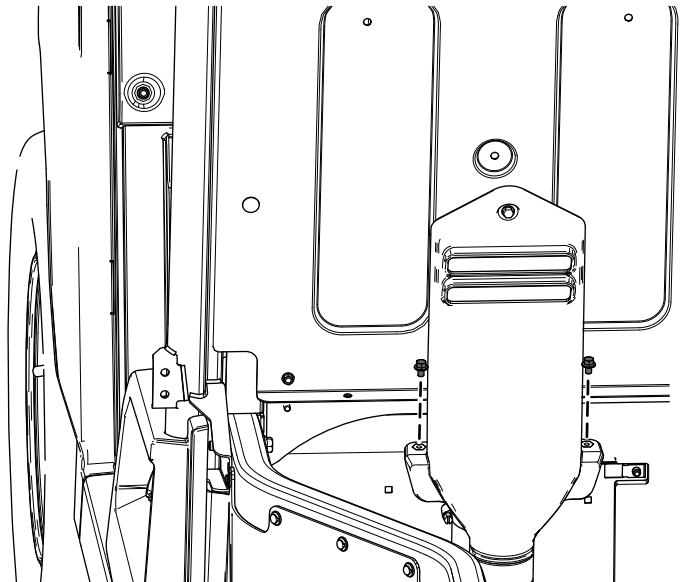

Figure 23
- A. Remove the 2 flange-head bolts (1/4 x 3/8 inch) from the CVT-intake hood (Figure 23).